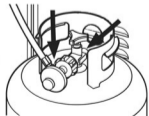

Fig. 3a
6. Check for leaks by brushing the soap solution on all gas valves, hose connections and fittings. (Shown by the heavy arrows in Fig. 3a, 4 and 5) Make sure you generously brush the locations with the soap solution, completely surrounding the connections and fittings.